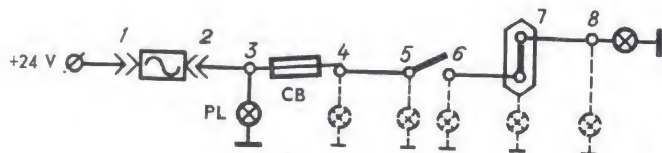

FIG. 94. CIRCUIT CONTINUITY TEST DIAGRAM
1. Points 8, 7, 6, 5, 4 (Fig. 94) are deenergized (pilot lamp PL does not glow), point 3 is energized (pilot lamp glows): circuit breaker CB is faulty.